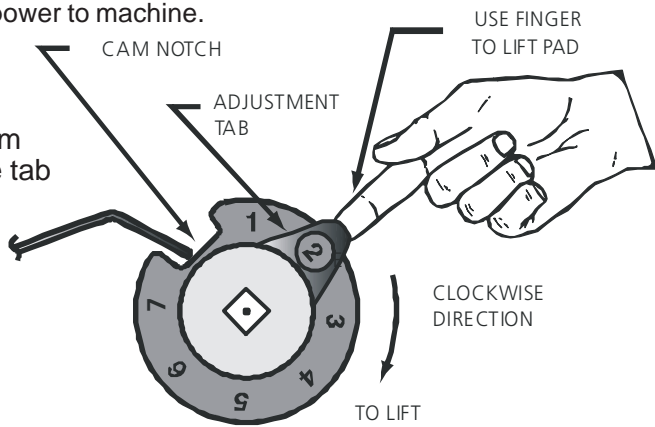

FIGURE 1
2. Turn Shaft & Cam Assembly in a clockwise direction until switch lever arm drops into cam notch (Fig. 1).